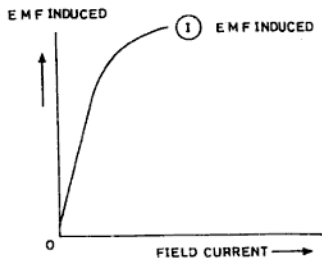

Fig. 7.14 OCC curve of dc series generator
**Characteristic Curve of dc Series Generator** A curve between the field current (which is also the load current ( $I_L$ ) or armature current ( $I_a$ )) and the emf induced in the armature conductor is shown in Fig. 7.14. The curve starts a little above zero because when the field current is zero, even then some induced emf is due to residual magnetism. The curve increases rapidly in a straight line with the increase of current and then it becomes flat due to magnetic saturation of the field poles.